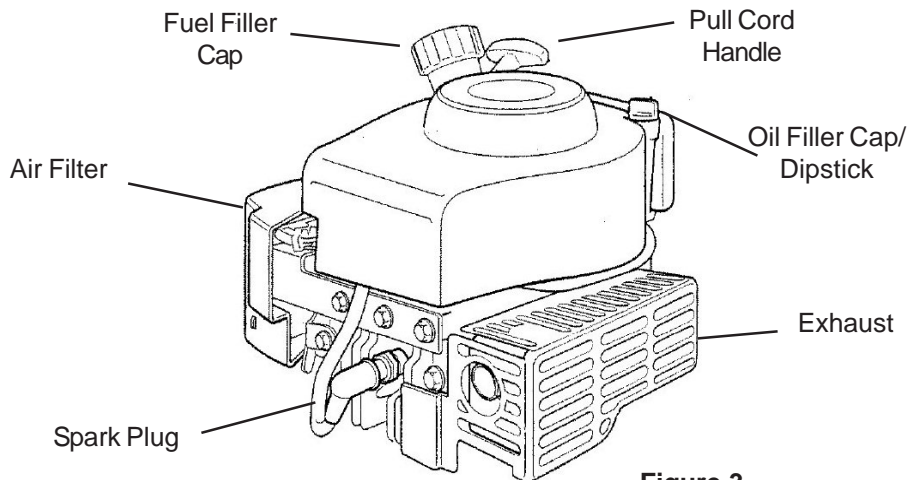

Figure 3
- Put Mountfield 4-stroke, or an SAE 10W-30 oil, in the oil filler (Figure 3). Do not overfill, the oil tank capacity is 0.6 litre. Mountfield oil, part number MX855, is available from any Mountfield stockist or B&Q store.